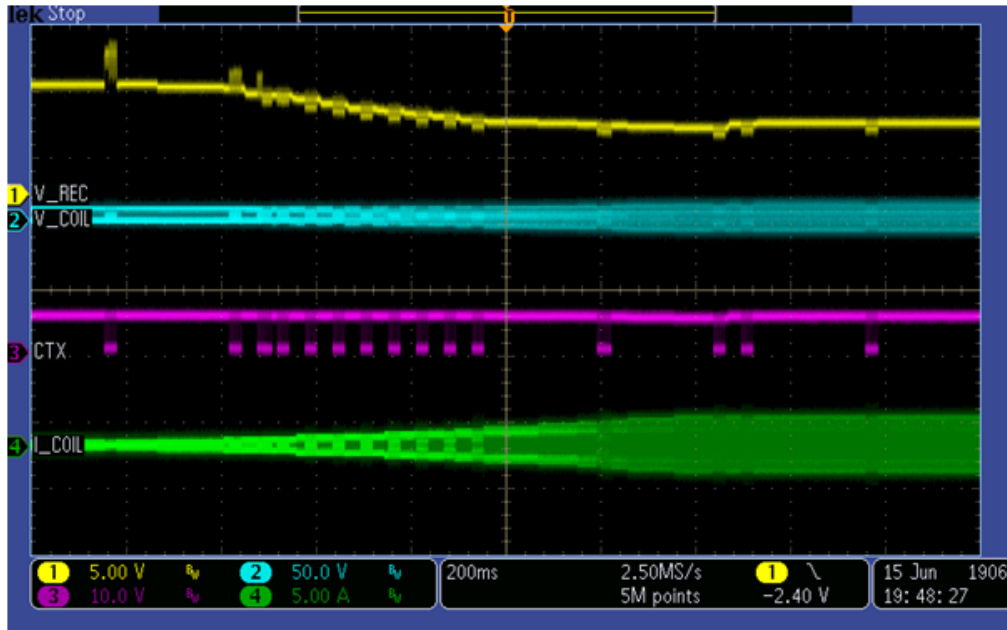

Figure 40. System response for adding the load gradually
- System response measurement for increasing the load gradually from 0 A is shown in Figure 40.